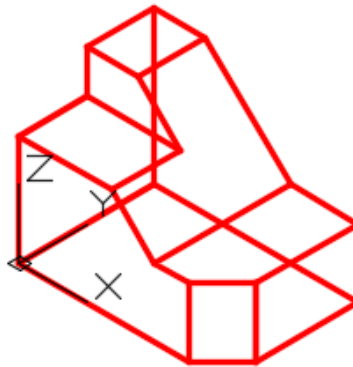

Figure Step 4
Step 4 Change the layer of all wireframe lines to layer: Model. (Figure Step 4)